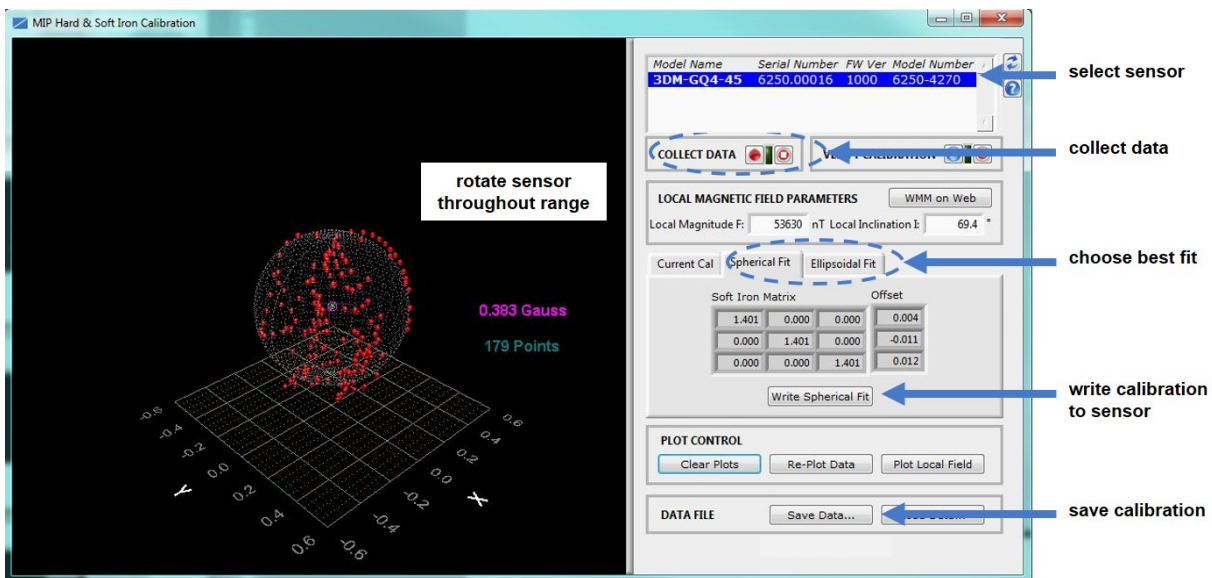

Figure 25 - Collect Calibration Data
- Select the Arm Recording button next to Collect Data (*Figure 25 - Collect Calibration Data*). The software will begin taking readings, as indicated by the points counter in the graphing window. The maximum number of points is 1000, however 100 is usually adequate. As the readings are taken, rotate the sensor or sensor platform in all possible directions to get a complete profile of the baseline magnetic influences throughout the sensor frame. Data points will appear on the graph in red. For mobile sensor platforms, such as ground vehicles, move the platform as much as possible to simulate actual use without exposing it to excessive magnetic sources (such as driving over railroad tracks or near steel pilings). The intention is to get a baseline of the platform in a neutral environment that still accounts for the platform itself in all orientations. For stationary platforms the baseline may include significant magnetic influences that will be present during operation.
- When all possible rotations are completed, select "Stop Streaming" next to Collect Data, and then select Save Data to save the calibration data points on the host computer (*Figure 25 - Collect Calibration Data*).